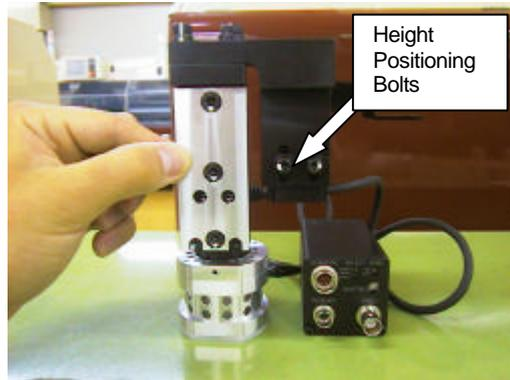

Figure 21
- Loosen the two height positioning bolts and adjust the focus by raising or lowering the height of the camera. (see figure 21)